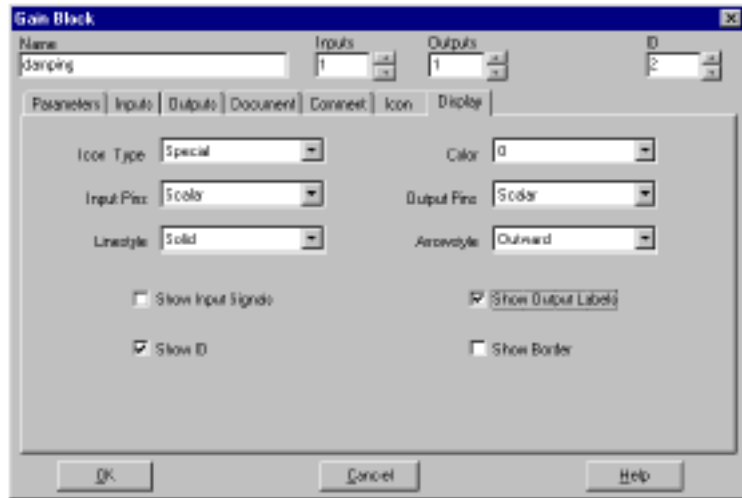

Figure 4-19. Gain Block (Display Tab)
- e. Click the Display tab (see Figure 4-19), and enable the **Show Output Labels** check box.